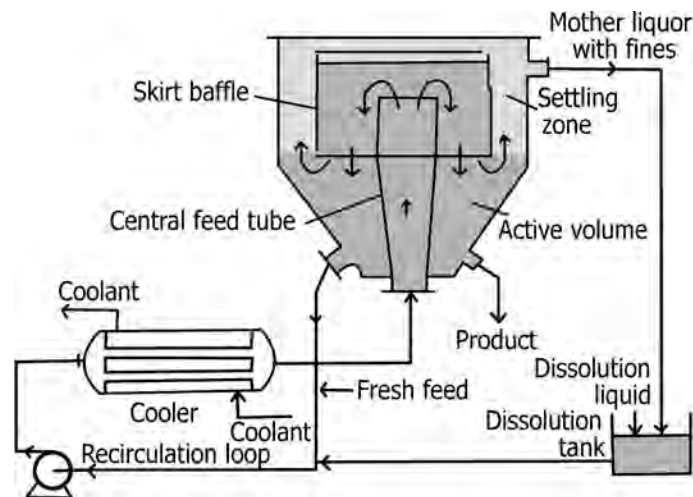

FIGURE 18.6 Surface-cooled baffled crystallizer using external heat exchanger surface to generate supersaturation by cooling.
- These crystallizers are of two types, namely, surface-cooled (SC) and surface-cooled baffled (SCB).
- Figure 18.6 illustrates a common SCB crystallizer. It consists of a shell and tube heat exchanger, a vessel with internal skirt baffle and a recirculation pump.